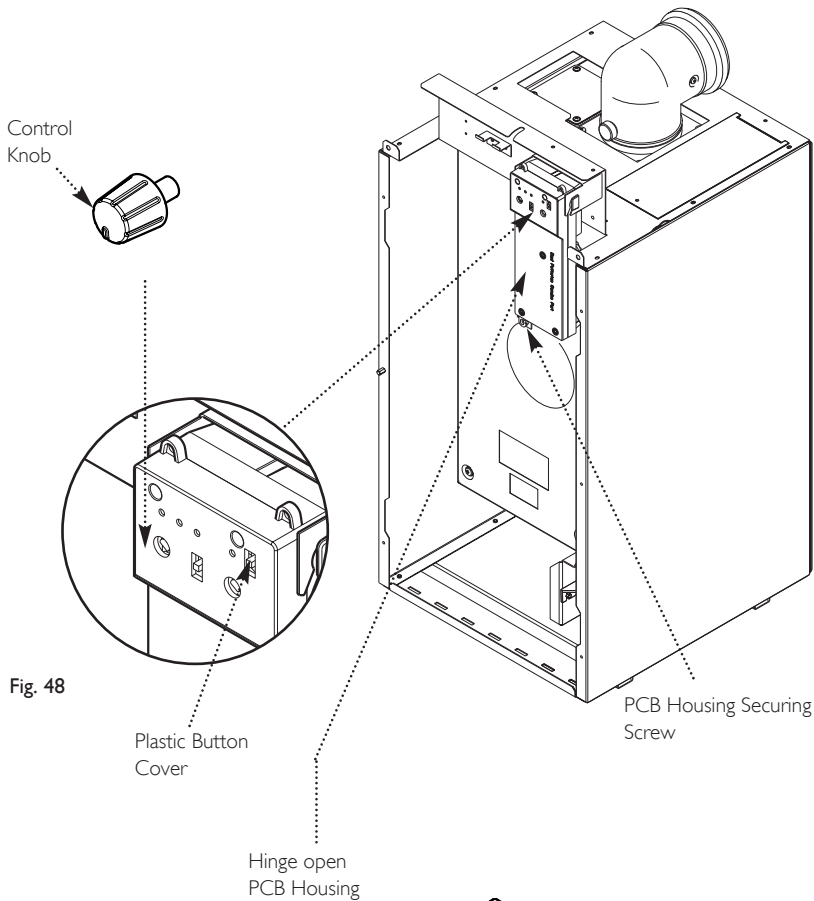

Fig. 48
15.6 PCB (Figs. 48 & 49)
1. Pull the control knob off the spindle and remove the plastic button cover. Refit them onto the new PCB (Fig. 48).